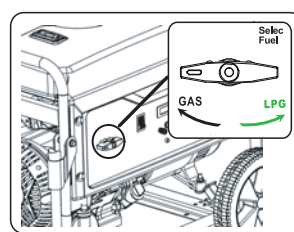

Fig 10
- Turn the fuel selector to “GAS” position (See fig 10)
- Turn the fuel selector to the “PROPANE” position (See fig 10)